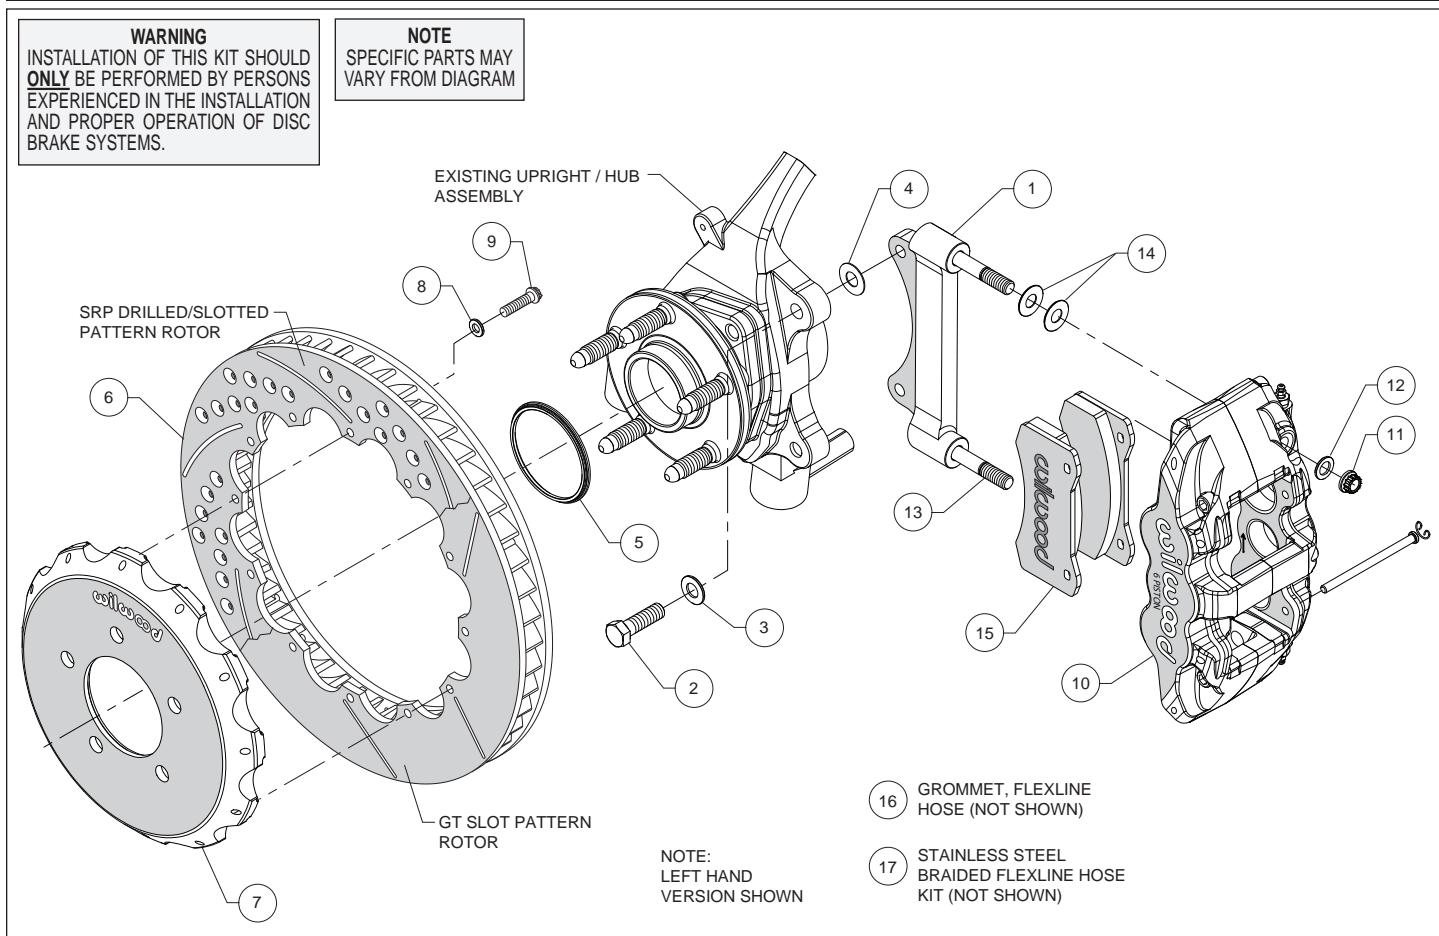
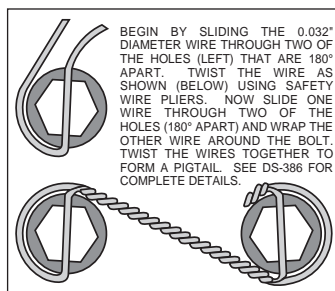

Figure 1. Typical Installation Configuration
Figure 4. Safety Wire Diagram
Assembly Instructions (numbers in parenthesis refer to the parts list and Figure 1 on the preceding pages):
- The caliper mount bracket (1) should initially be installed with clean, dry threads on the mounting bolts. Orient the bracket as shown in Figure 1, and Photo 1 and install using washers (3) and bolts (2). Initially place one shim (4) on each bolt between the bracket and upright, Figure 1. Temporarily tighten the mounting bolts. **NOTE:** *The bracket must fit squarely against the mount bosses on the upright.* Inspect for interference from casting irregularities, machining ridges, burrs, etc. Later, after the caliper alignment has been checked, the mount bolts will be secured using red *Loctite*® 271.
- Orient the rotor (6) and the hat (7) as shown in Figure 1 and Photo 2. Attach rotor to hat using bolts (9) and washers (8). Using an alternating sequence, apply red *Loctite*® 271 to the threads, and torque to 155 **in-lbs**. For an added measure of security, the bolts may be safety wired using standard 0.032 inch diameter stainless steel safety wire as shown in Figure 4. Please refer to Wilwood's data sheet DS-386 (available at www.wilwood.com/Pdf/DataSheets/ds386.pdf) for complete safety wire installation instructions.
- NOTE:** *This kit contains distinct right and left hand calipers that must be mounted in a specific direction, as described below.* Lubricate the caliper mounting studs (13) with lightweight oil. Initially place two .030" thick shims (14) on each stud as shown in Figure 1 and Photo 5. Mount the caliper (10) onto the bracket (1) using lock nuts (11) and washers (12), Figure 1. Ensure that the caliper is mounted so that the largest pistons are at the rotor exit end of the caliper, in relation to the direction of rotor rotation. Temporarily tighten the lock nuts and view the rotor through the top opening of the caliper. The rotor should be centered in the caliper, Photo 6. If not, adjust by adding or subtracting shims (4) between the bracket and the upright. Always use the same amount of shims on each of the two mounting bolts. Once the caliper alignment is correct, remove the bracket mounting bolts (2) one at a time, apply red *Loctite*® 271 to the threads, and torque to 60 ft-lb.
- Remove the two pad retaining pins from the caliper (10) by carefully popping out the pin retaining clips and sliding out the pins. Insert the brake pads (15) into the caliper from the bottom, Figure 1 and Photo 7. With the friction material facing the rotor, secure the brake pads in place with the pad retaining pins and clips, Photo 8. Reinstall the caliper onto the caliper mounting bracket and temporarily tighten the lock nuts. Check that the top of the brake pad is flush with the outside diameter of the rotor, Photo 9. If not, adjust by adding or subtracting shims (14) between the caliper and the bracket. After the caliper pad height is set, torque the caliper lock nuts (11) to 47 ft-lb.